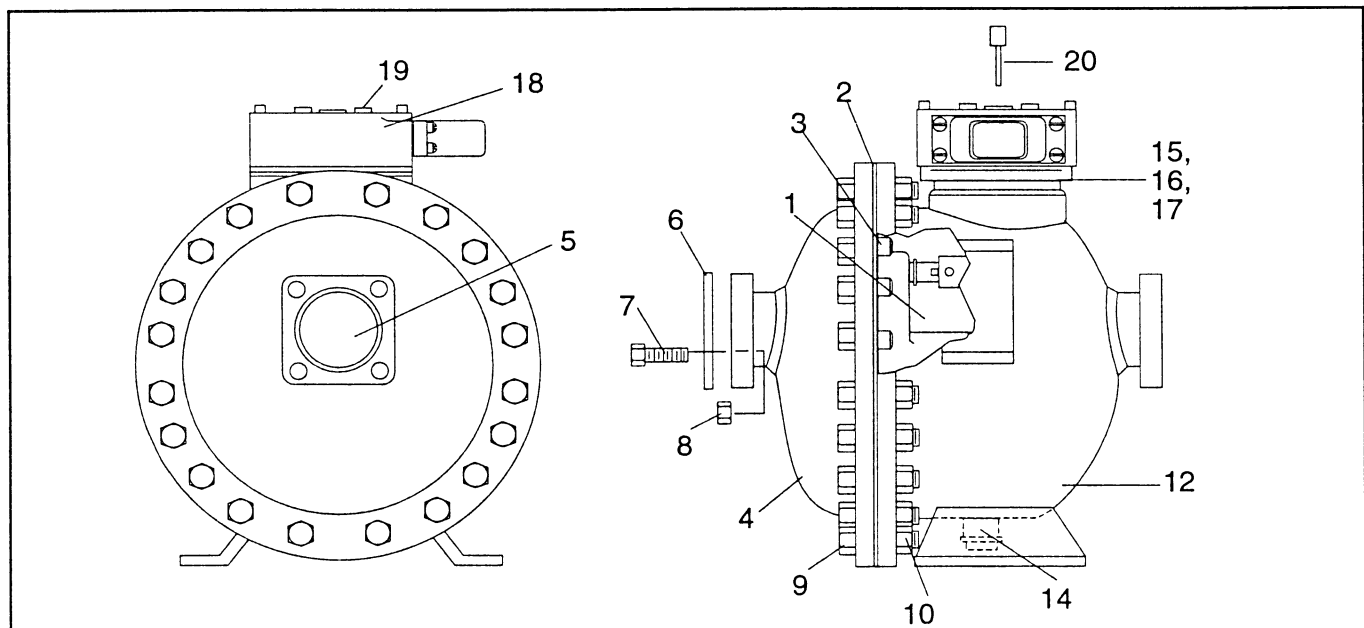

Figure 6-1 Meter Assembly of Series 40 and 50
1. Refer to Figure 6-1. Position the gasket (item 2) onto the measuring unit and attach to the front dome cover (item 4) with screws (item 3).
2. Position the meter housing gasket (item 11) onto the meter housing (item 12), replace the front dome assembly and secure with screws and nuts (items 9 and 10).
3. Install the counter base plate gasket (item 5) on the meter housing.
4. Mate the counter base plate assembly (item 16) with the coupling shaft on the measuring unit and attach with screws (item 17).
5. Position and install the adjustor (item 18) with the attached coupling on top of the counter base plate and secure with screws (item 19).